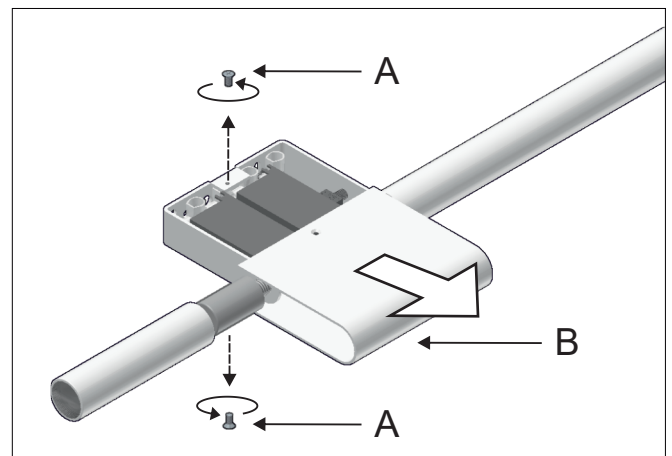

Figure 1
1 - Unscrew the top and bottom screws (A) and remove the cover (B). Figure 1.